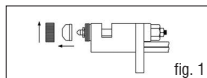

fig. 1
- 5) Unscrew the ring nut (Pos.3) and remove the air cap (Pos.1a - 1b)(fig.1)